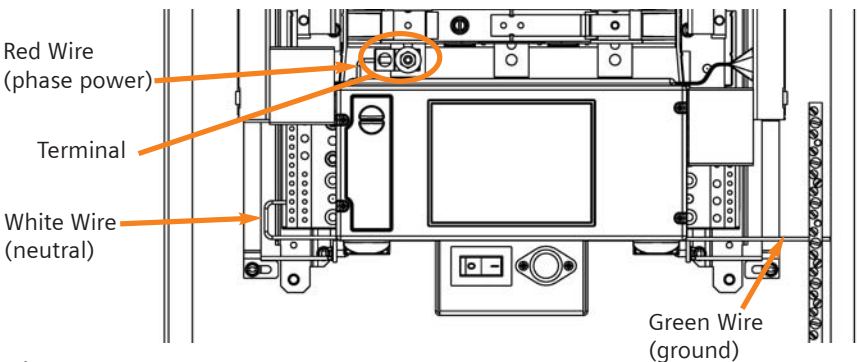

Figure 6.21
6. Attach terminal to one of the main bus as shown in figure 6.21 and tighten per torque requirement on the back of panel deadfront.
7. Connect red wire to phase terminal installed in step 6 as shown in figure 6.21.
8. Connect white wire to neutral terminal as shown in figure 6.21.
9. Connect green wire to panelboard ground terminal as shown in figure 6.21.